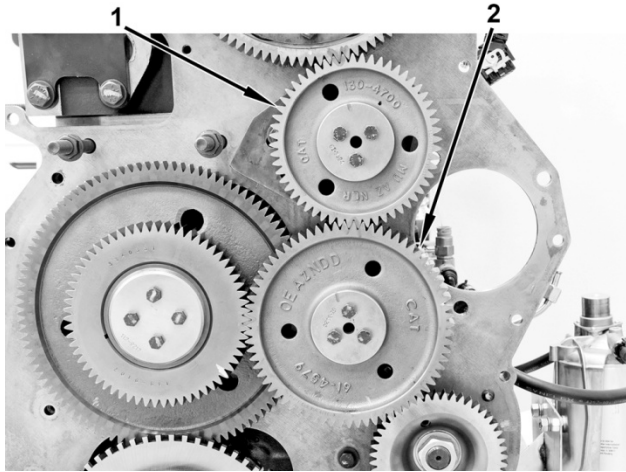
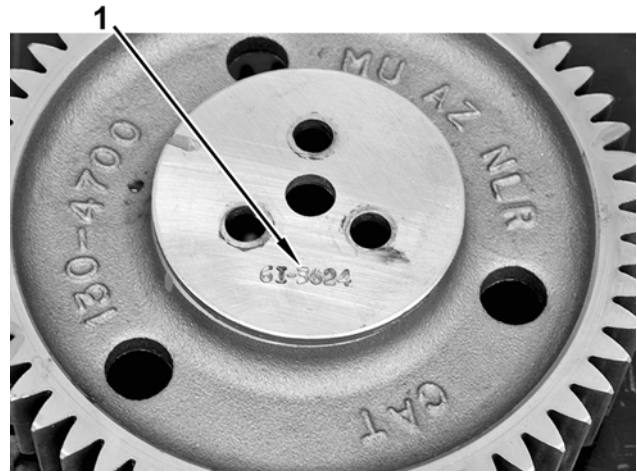

Figure 18 Fixed & Adjustable Idler Gears
Figure 19 Idler Gear Retaining Plate
23. Position fixed and adjustable idler gears on supports and install idler gear retaining plates (Figure 18, Items 1 and 2 and Figure 19, Item 1)